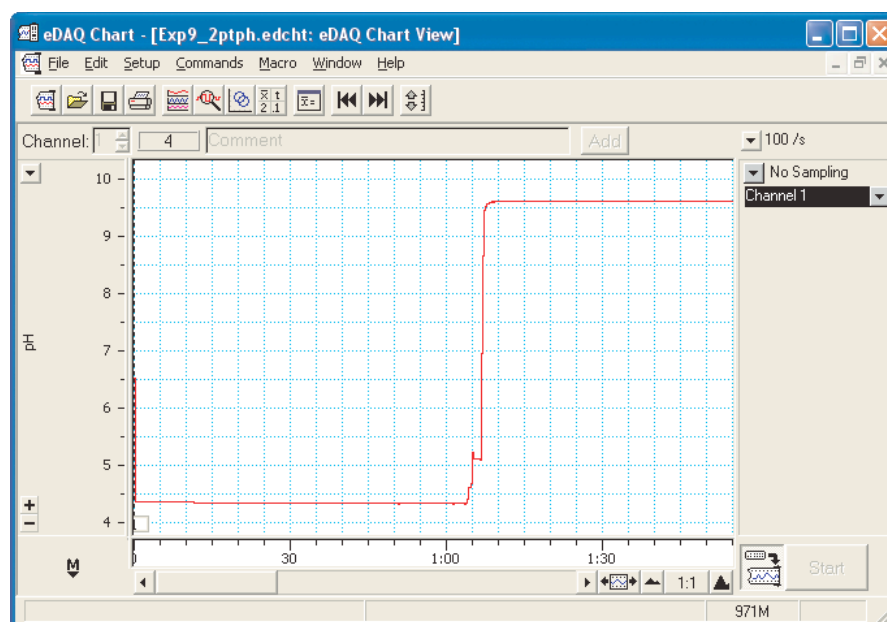

Figure 6.7 Chart channel displaying pH
6.2.12 Click the Apply button in the pH dialog box to show the calibrated pH values in the preview pane. Click OK to close the dialog box and apply the calibration to the whole channel (**Figure 6.7**). The pH of solutions can now be recorded directly on this channel.